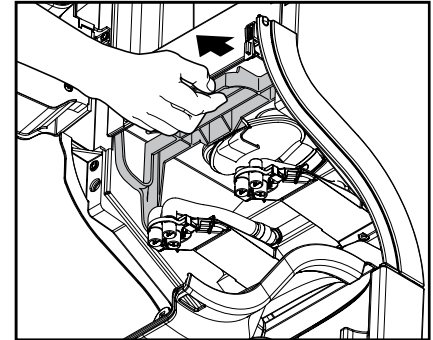

Fig. 26
- c. Pull the release bar to release the complete mixing console (fig. 26).